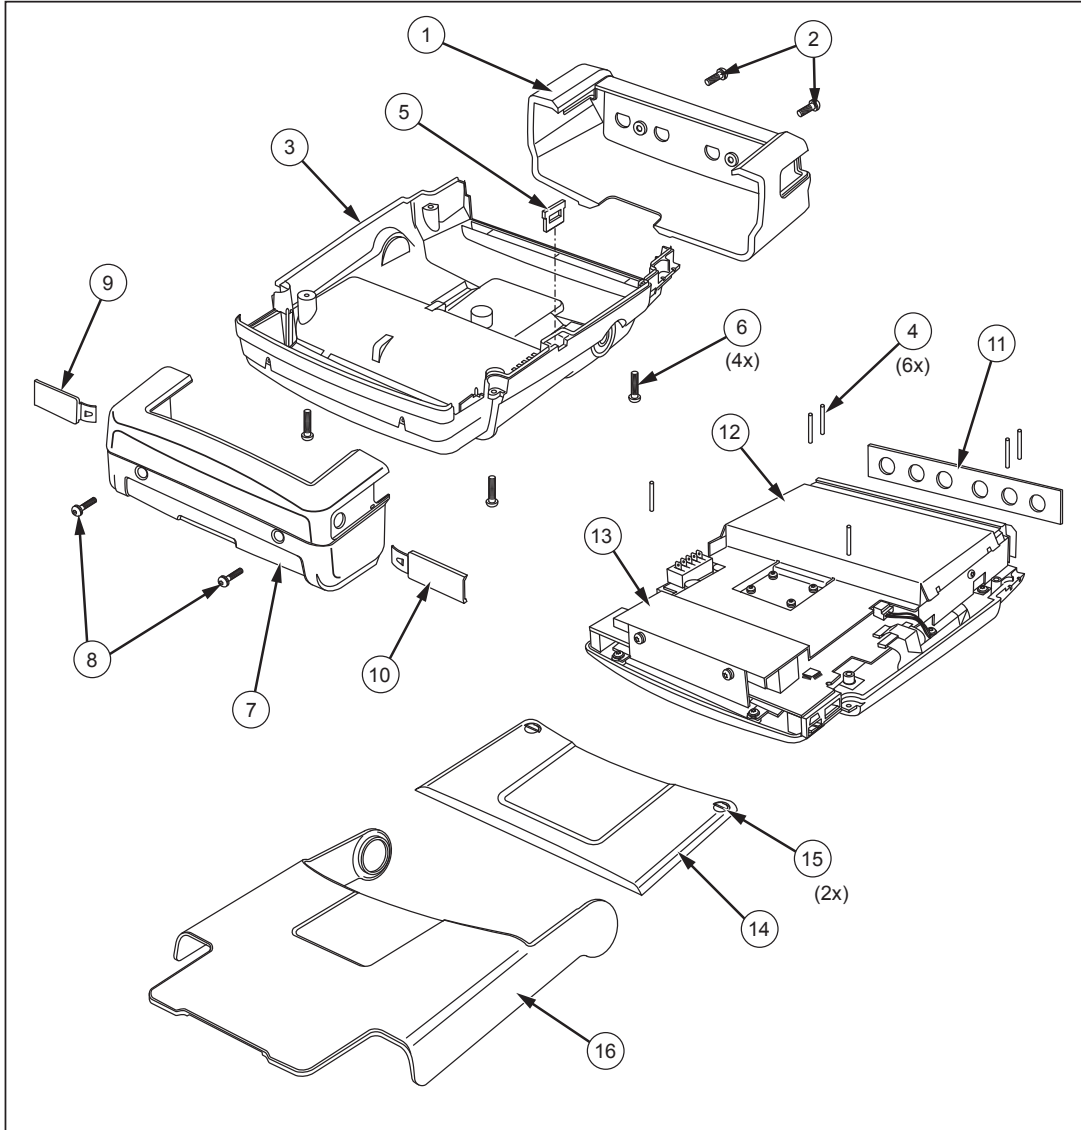

Figure 6-2. Opened Case and Screws
At the end of this chapter, see Figures 6-2, 6-3, and 6-4 for disassembly.
7. Reinsert the flat cables if you want to measure the bottom side of the PCA under working condition. See Figures 6-2, 6-3, and 6-4 at the end of this chapter.
See Figures 6-2, 6-3, and 6-4 for guidance on disassembly.